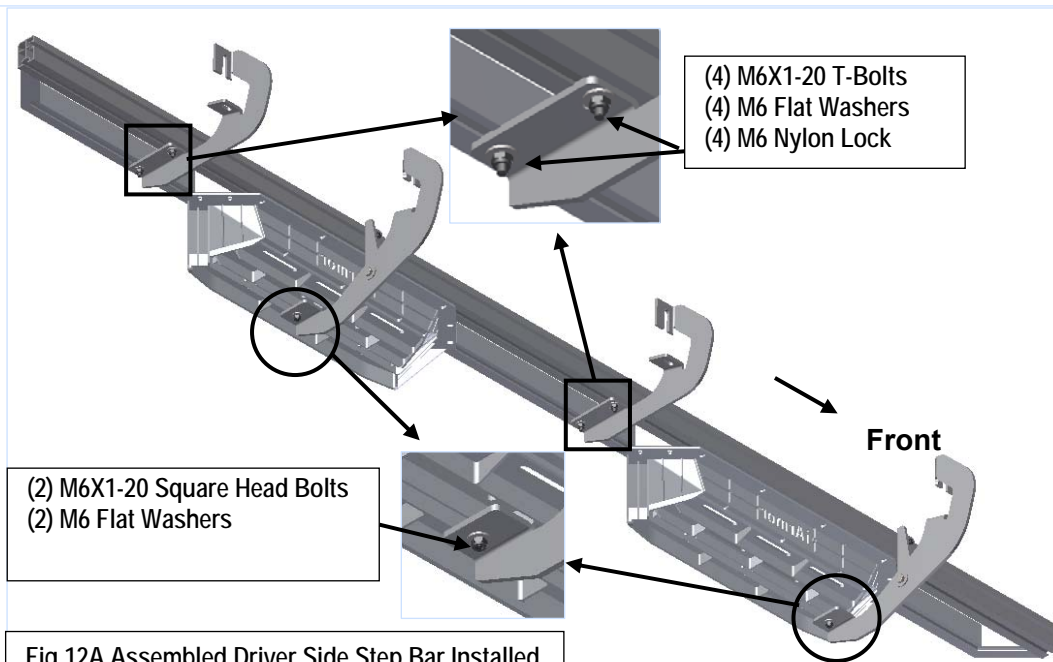

Fig 12A Assembled Driver Side Step Bar Installed
Select the Driver/Left Side Assembled Step Bar, attach the Step Bar to the Brackets with (4) M6X1-20 T-Bolts, (4) M6X1-20 Square Head Bolts, (8) M6 Flat Washers and (8) M6X1 Nylon Lock Nuts, **(Fig 12A & B)**. Do not tighten hardware at this time.
Repeat **Steps 7 & 8** to install the Passenger Assembled Step Bar (Fig 12A & B).